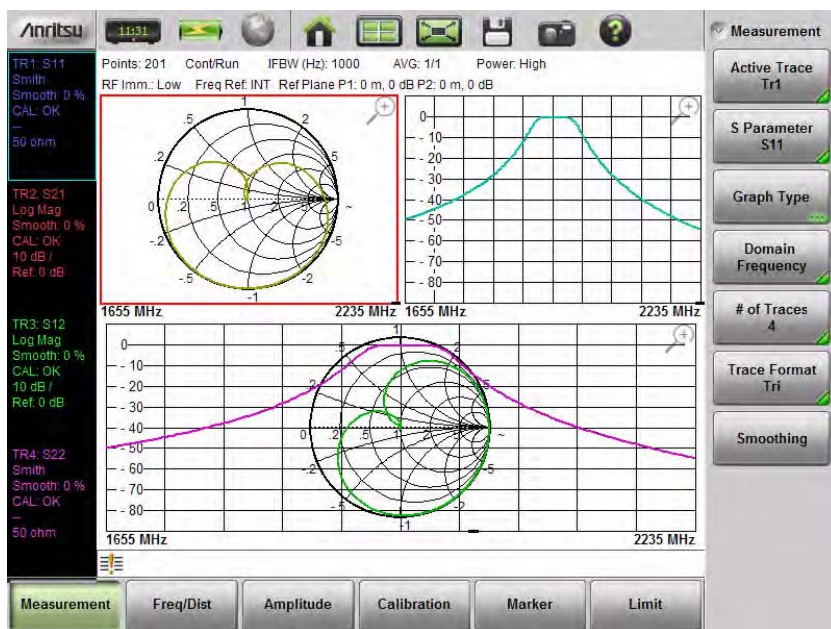
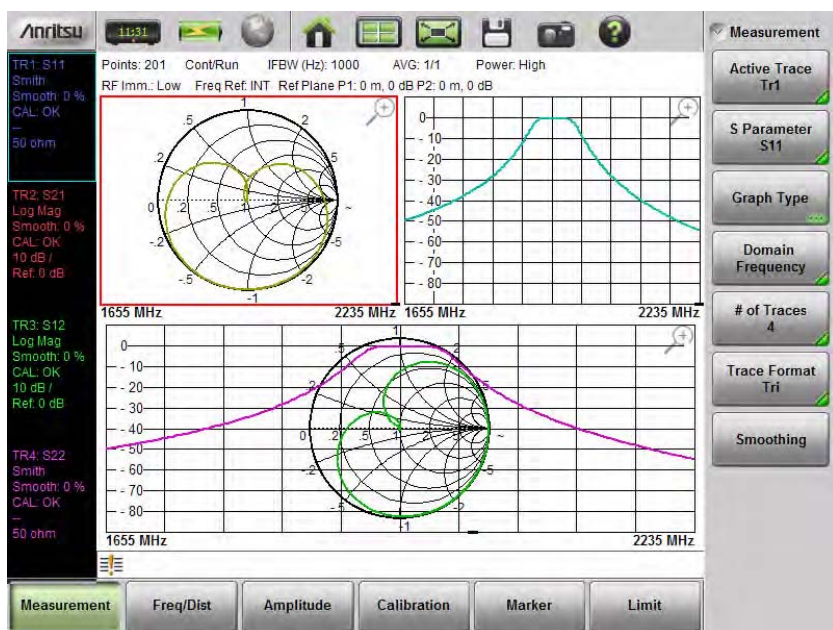

Figure 6-2. Format = Quad, Traces = 4
Figure 6-7. Format = Quad, Traces = 4 (same as Figure 6-2)
1. The default view (after preset) uses Trace Format = Quad with Number of Traces = 4. Refer to Figure 6-2 on page 6-9.
5. Now return to the default display of Trace Format = Quad. Change the Number of Traces from 4 to 1. Note how the top left quadrant is filled, while the other three quadrants have no data. Refer to Figure 6-2 on page 6-9.
6. Increment the number of traces from 1 back to 4 and note how the vector network analyzer adds the additional traces to the display. Refer to Figure 6-7 on page 6-14. (Note that Figure 6-2 and Figure 6-7 are the same measurement illustration.)